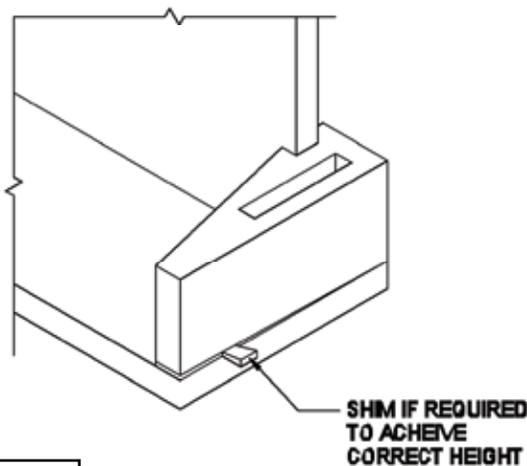

FIGURE 8
Earthcore mortar is not intended to create a mortar joint of any thickness for leveling purposes. Therefore, leveling and alignment adjustments are made by the use of small plastic shims supplied with the unit. (Figure 8)
Step 4: When all of the STANDARD firebox wall components are set, check the top surface of the firebox for level. If necessary, adjust the top surface of the box assembly for level by inserting a shim between the lowest wall component and the top surface of the STANDARD base plate. (Figure 8)